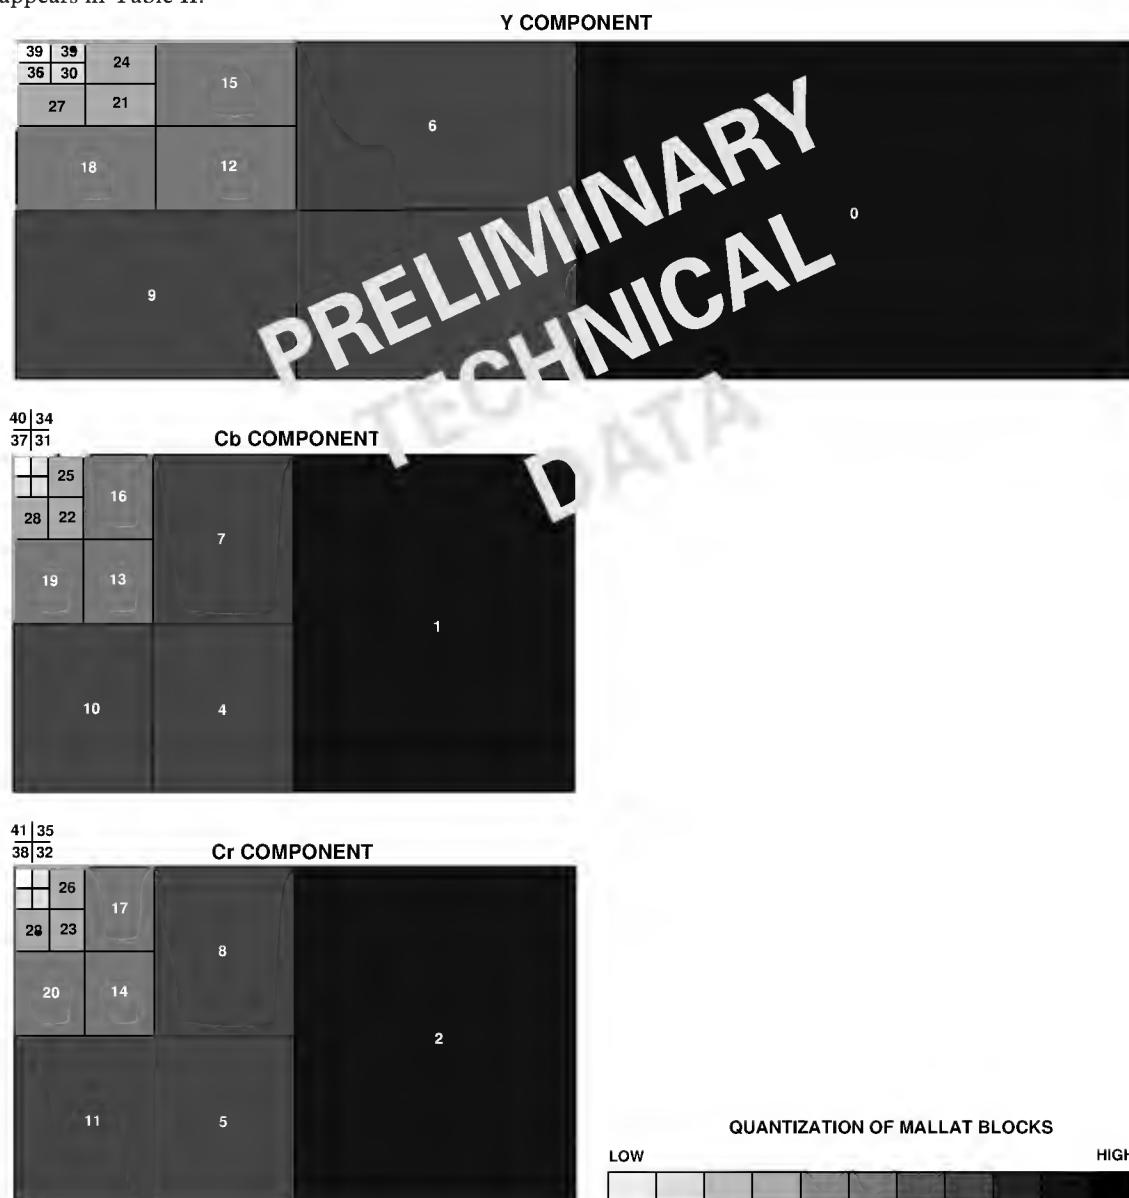

Figure 8. Typical Quantization of Mallat Data Blocks (Graphed)
Figure 8 shows how a typical quantization pattern applies over Mallat block data. The high frequency blocks receive much larger quantization (appear darker) than the low frequency blocks (appear lighter). Looking at this figure, one sees some key point concerning quantization: (1) quantization relates directly to frequency in Mallat block data and (2) levels of quantization range widely from high to low frequency block. (Note that the fill is based on a log formula.) The relation between actual ADV601LC bin width factors and the Mallat block fill pattern in Figure 8 appears in Table II.
¹The Mallat block numbers, Bin Width factors, and Reciprocal Bin Width factors in Table II correspond to the shading per-cent fill of Mallat blocks in Figure 8.